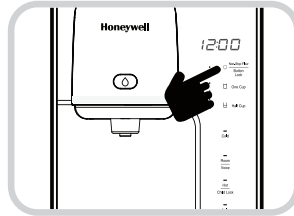

Fig. 14
1. Press the Energy Save/Clock (Setup) button for three (3) seconds in the Waiting Status to put the unit in the User Setting mode. The Voice Guide will say "selecting user setting mode" "user setting mode, please set function by pressing the illuminated button".
2. After the unit is in the User Setting mode, press the Non-Stop Flow/Button Lock button. (Fig. 14).